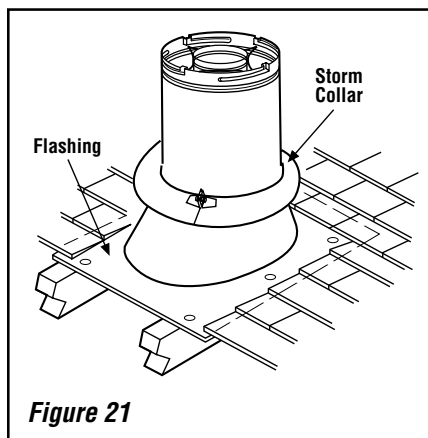

Figure 21
I. Install the roof flashing - Extend the vent sections through the roof structure. Install the roof flashing over the vent section and position such that the vent column rises vertically (use carpenter's level) (**Figure 21**). Nail along perimeter to secure flashing or adjust roofing to overlap the flashing edges at top and sides only and trim where necessary. Seal the top and both sides of the flashing with waterproof caulking.
J. Install the storm collar - Install the storm collar, supplied with the flashing, over the vent/flashing joint. See **Figure 21**. Loosen the storm collar screw. Slide collar down until it meets the top of the flashing. Tighten the adjusting screw. Apply non-combustible caulking or mastic around the circumference of the joint to provide a water tight seal.